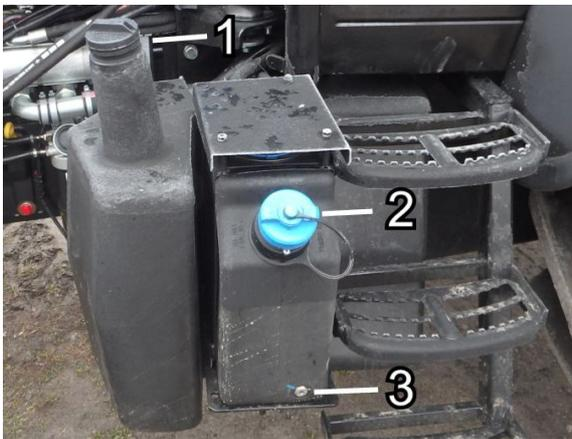

Fig. 4.3.2. Tank caps.
AdBlue/DEF tank filling (Fig. 4.3.2)
1. Open the AdBlue/DEF tank cap (2 - Fig. 4.3.2)